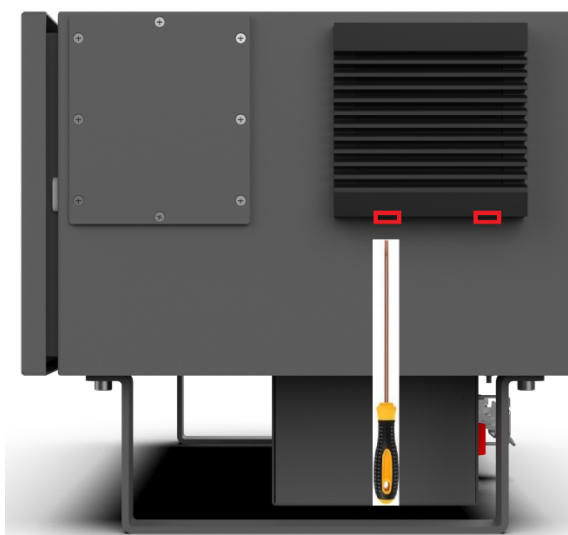

Figure 4 Control Cabinet Screen Cleaning
- 1) As shown in Figure 4, there are two gaps in the red box. Insert a small flat-head screwdriver into the gap and pry outward. Remove the dust cover when it becomes loose.